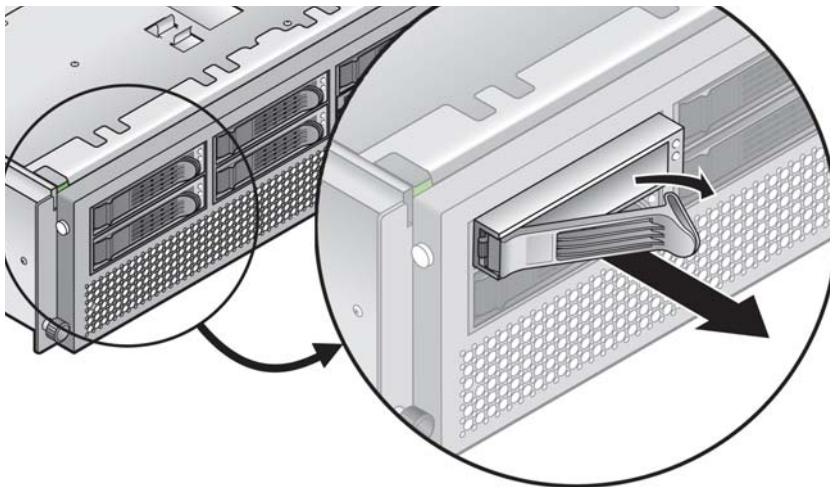

FIGURE 5-10 SCSI Hard Disk Drive Carrier and Release Latch
2. **Squeeze the release latch and carefully swing the arm to the left as far as it will go (see FIGURE 5-10).**